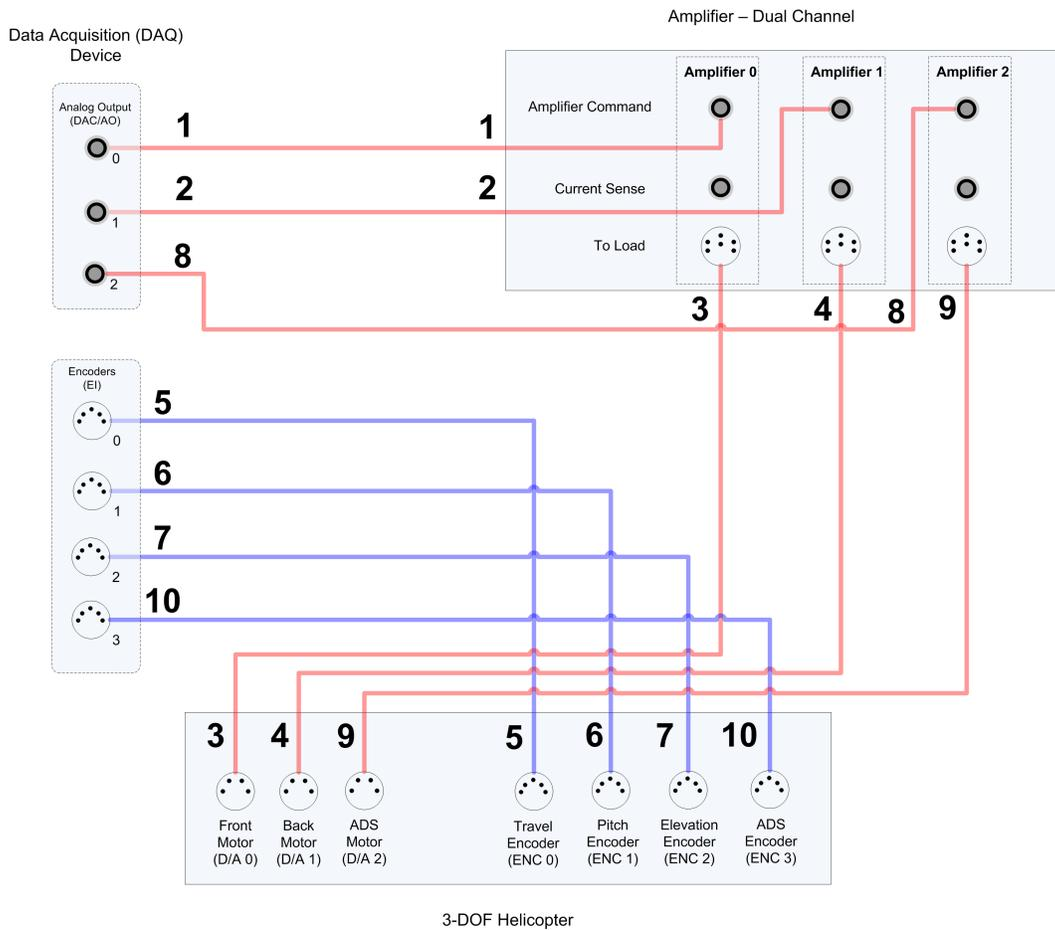

Figure 3.10: Connection diagram for 3 DOF Helicopter with the ADS option.
The additional wiring needed to operate the Active Disturbance System (ADS) is detailed in this section. The full connections between the DAQ terminal boards, amplifiers, and 3 DOF Helicopter with the ADS option are illustrated in Figure 3.10. These connections are described in detail in the procedure below and summarized in Table 3.2.
2. Connect the 2xRCA to 2xRCA cable from the *Analog Output Channel #2* on the DAC board to the *Amplifier Command* connector on the amplifier. See cable #8 shown in Figure 3.10. This carries the attenuated ADS motor voltage control signal,  $V_{ads}/K_a$ , where  $K_a$  is the amplifier gain.
3. Connect the 4-pin-stereo-DIN to 6-pin-stereo-DIN from *To Load* on the amplifier to the **ADS** motor connector. See connection #9 shown in Figure 3.10. The cable transmits the amplified voltage that is applied to the ADS motor,  $V_{ads}$ .
4. Connect the 5-pin-stereo-DIN to 5-pin-stereo-DIN cable from the *ADS Encoder* connector on the 3 DOF Helicopter base to *Encoder Input #3* on the terminal board, as depicted by connection #10 in Figure 3.10. This carries the angular measurement of the ADS lead screw. This measurement is then translated to give the linear position of the disturbance mass and is denoted by the variable  $x$ .